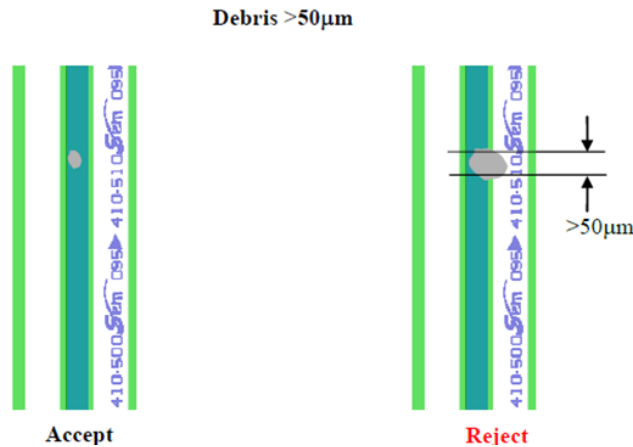

Fig. 2
- Contaminations or debris smaller than 50 μ m on the N or P-side metallization or outside the waveguide area are considered within specs, as shown in Fig.2.